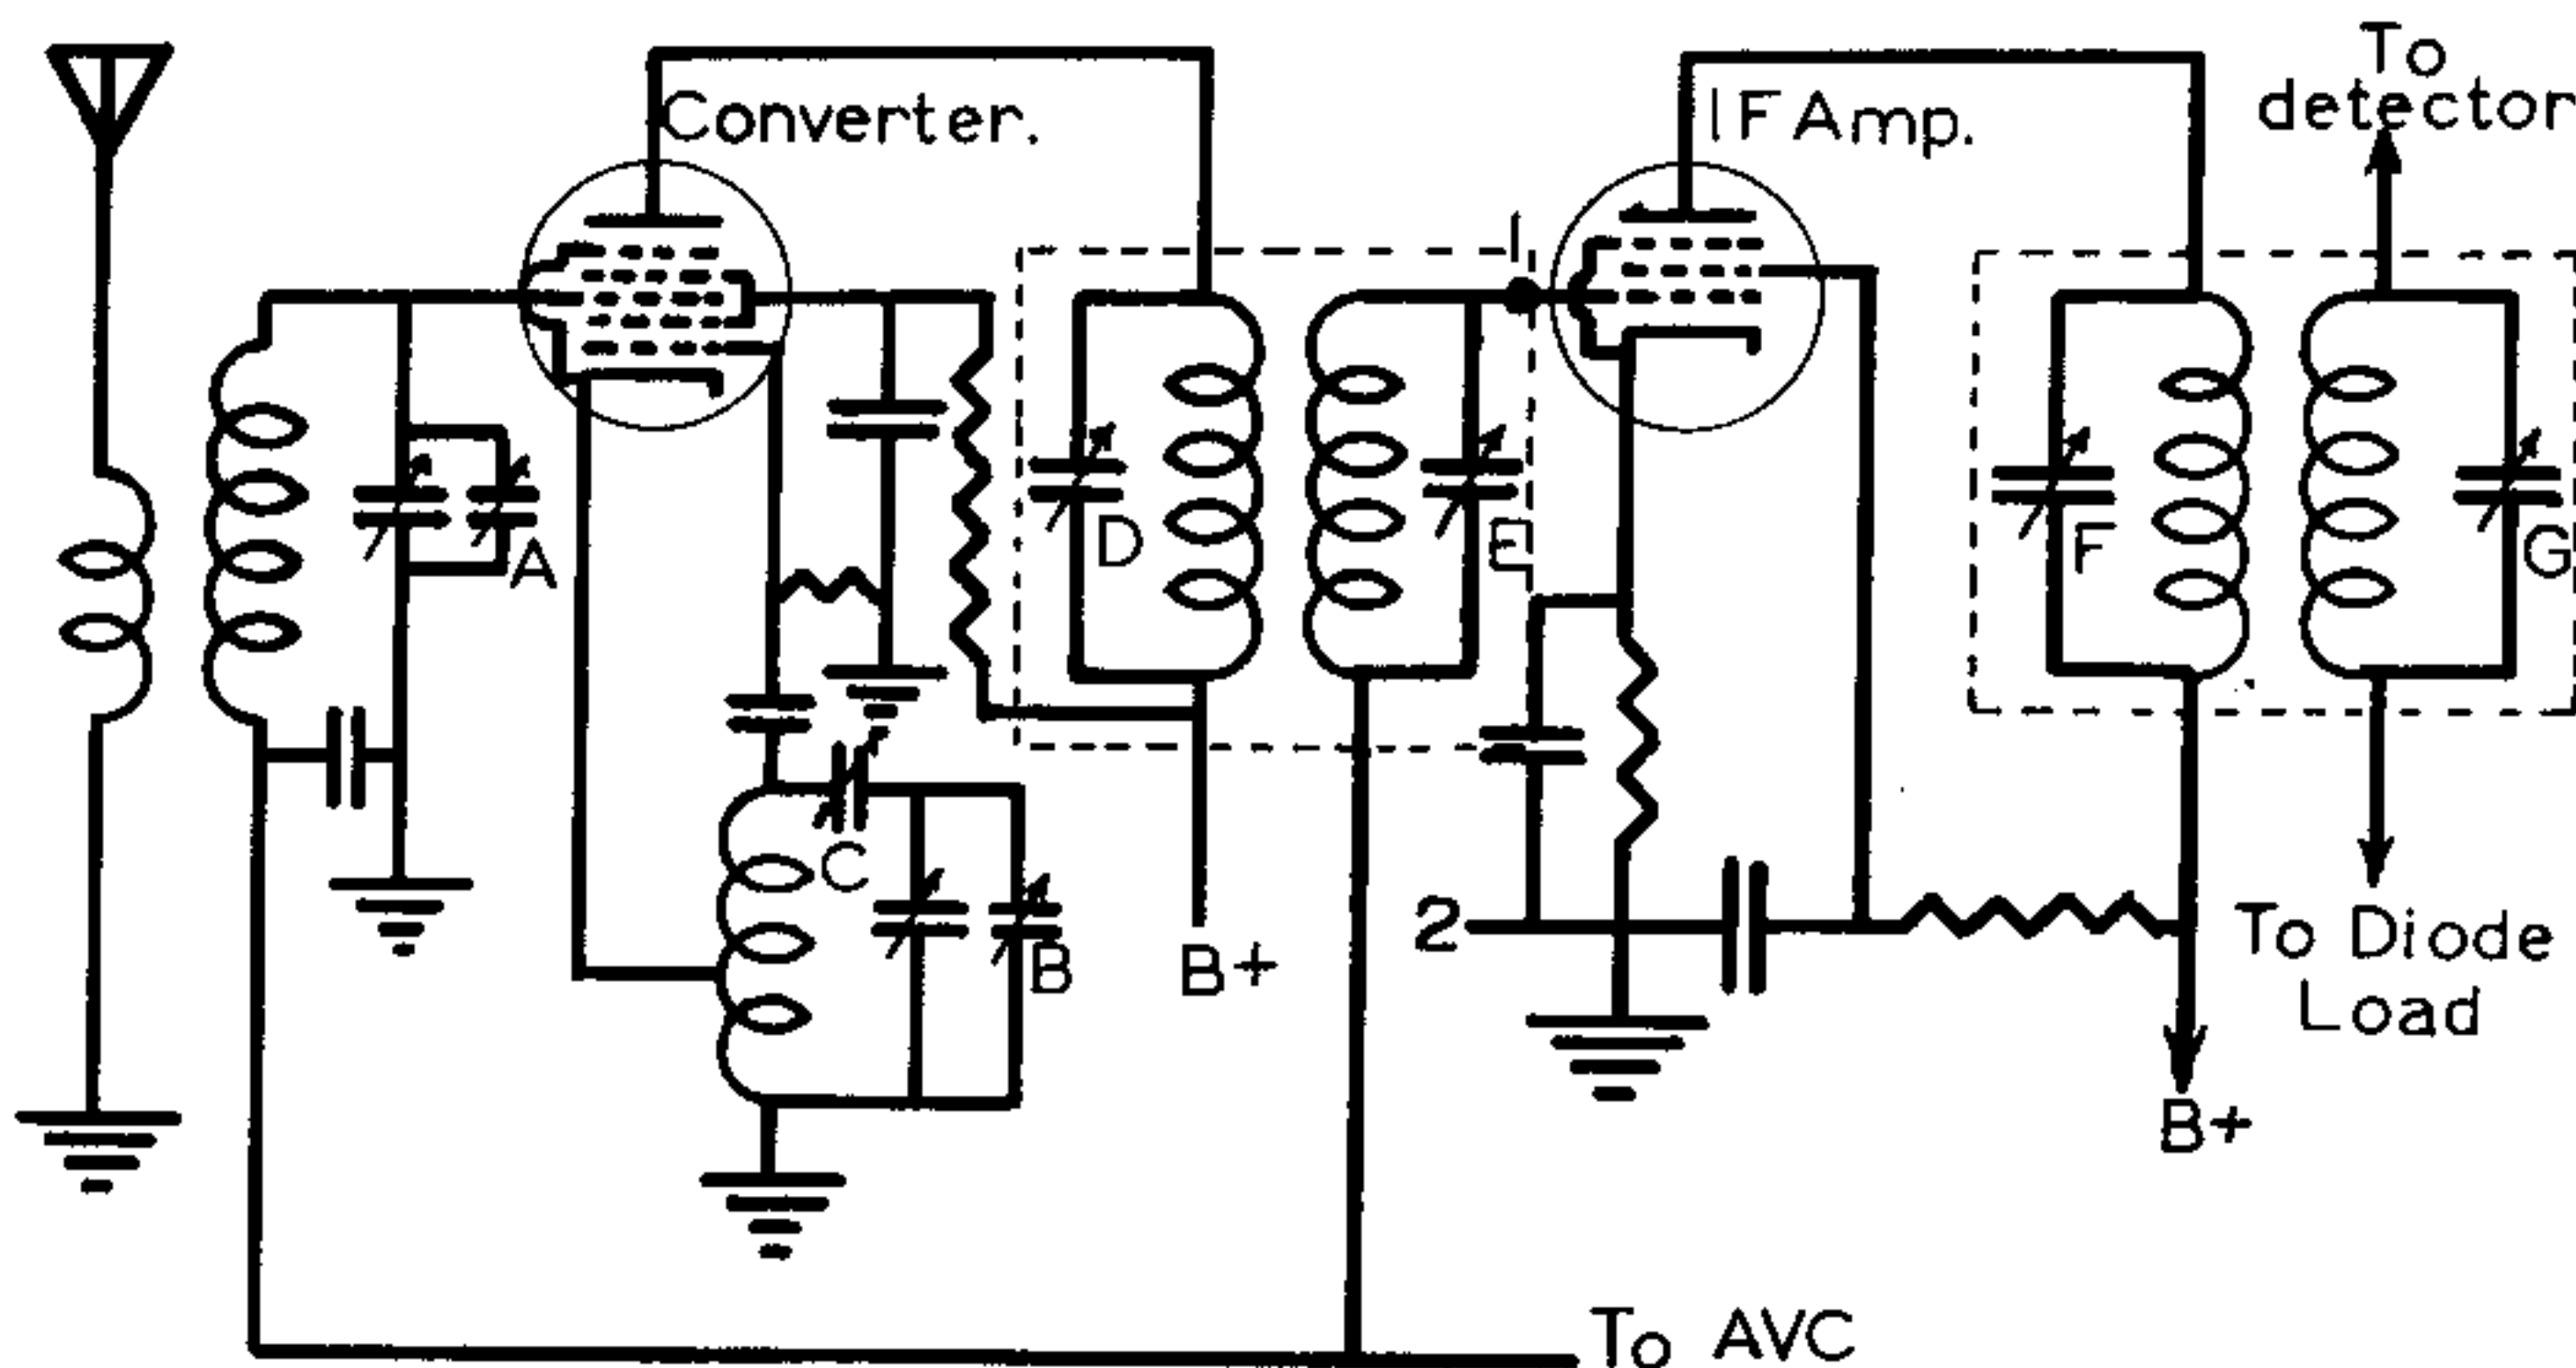

FIGURE 21
8. Adjust the i.f. trimmers for maximum reading on the output meter. This would correspond to adjusting trimmers D, E, F and G in Fig. 21.
Start by connecting the output of the signal generator between the control grid of the i.f. amplifier tube and ground (points 1 and 2 in Fig. 21). With the signal generator at the specified i.f., adjust the trimmers of the last i.f. transformer for maximum output. (If the i.f. frequency is not known, set the signal generator to one of the standard i.f. frequencies, usually 456 kc., and adjust trimmers, looking for a normal peaking of the output. By experiment and experience, you may be able to find an i.f. which will work satisfactorily.)
11. Set the signal generator to the same frequency. Then adjust the oscillator trimmer for maximum output. (This trimmer is usually located on the oscillator section of the tuning condenser gang, adjustment B in Fig. 21.) If the receiver is badly out of calibration, it may be necessary to tune the signal generator back and forth near the frequency of the receiver, until a signal goes through the receiver. Then the receiver's oscillator trimmer can be adjusted until the receiver and signal generator are tuned to the same frequency, and maximum output is obtained. At this point, it is also a good plan to make sure that the
12. Tune the receiver and signal generator to a frequency of about 1400 kc., and adjust the preselector trimmer for maximum output (adjustment A in Fig. 21). This trimmer is generally on the preselector section of the gang.
13. Make a low-frequency adjustment by tuning the set and the signal generator to approximately 600 kc. Adjust the low-frequency padder, adjustment C in Fig. 21 (or the oscillator coil core), for maximum output. When the maximum in sensitivity is wanted, it is better to use the following procedure, known as